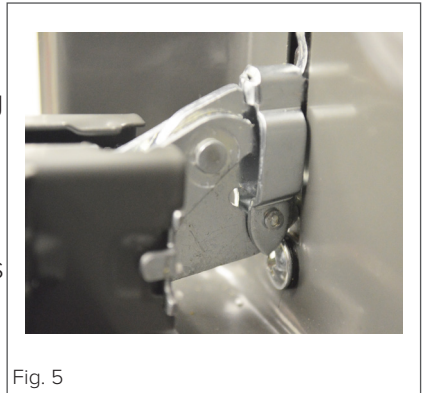

Fig. 5
- Next, ensure the notch on the underside of the hinge sits on the lip of the hinge slot. Open the door fully. Each hinge should be seated in the same way as the hinge in fig. 5. If it is not, follow the steps for removing the door and try replacing it again
- Use a flathead screwdriver to unhook the door slat, as shown in fig. 5